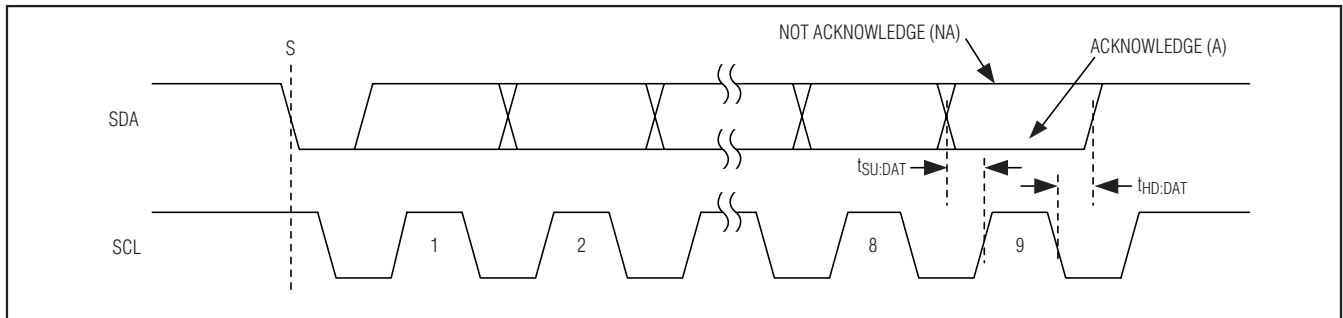

Figure 3. Acknowledge
of the acknowledge-related clock pulse (ninth pulse) and keeps it low during the high period of the clock pulse (Figure 3). To generate a not-acknowledge (NA) signal, the receiving device allows SDA to be pulled high before the rising edge of the acknowledge-related clock pulse and leaves it high during the high period of the clock pulse. Monitoring the acknowledge bits allows for detection of unsuccessful data transfers. An unsuccessful data transfer occurs if a receiving device is busy or if a system fault has occurred. In the event of an unsuccessful data transfer, the bus master should reattempt communication at a later time.